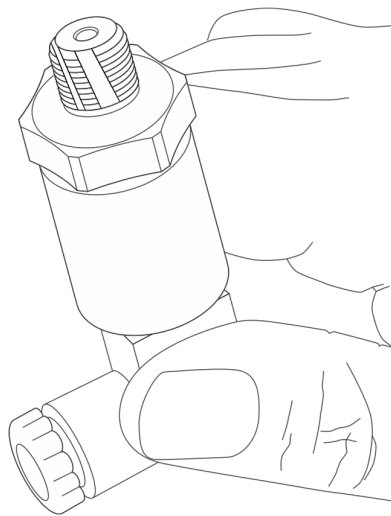

Figure 35: Replacing seal tape
15. Wrap stainless steel compatible PTFE tape around the threads at the top of the pressure sensor, beginning from the base of the threads to the top, approximately three times taking care to avoid covering the top opening. Refer to Figure 35.